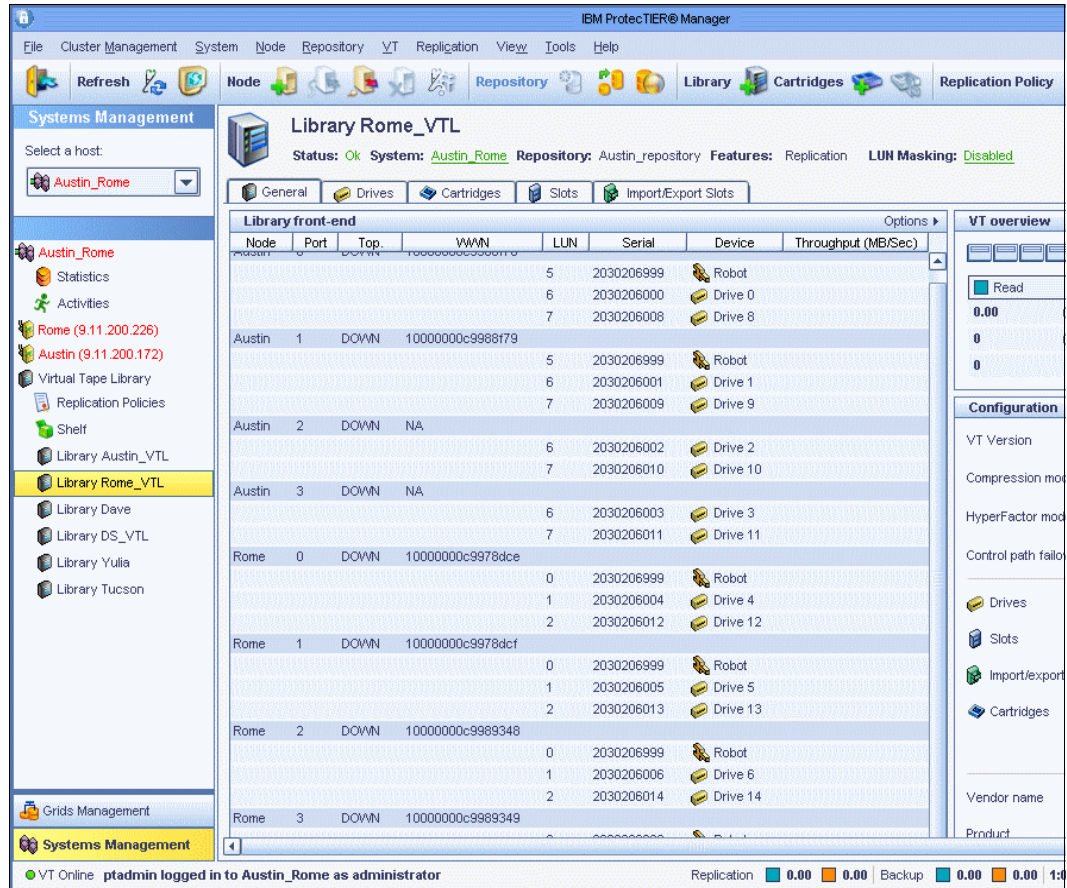

Figure 10-126 Check cartridge metadata verification select library window
1. From the System Management pane, select the library that has the cartridge inserted on which the metadata should be verified (Figure 10-126).